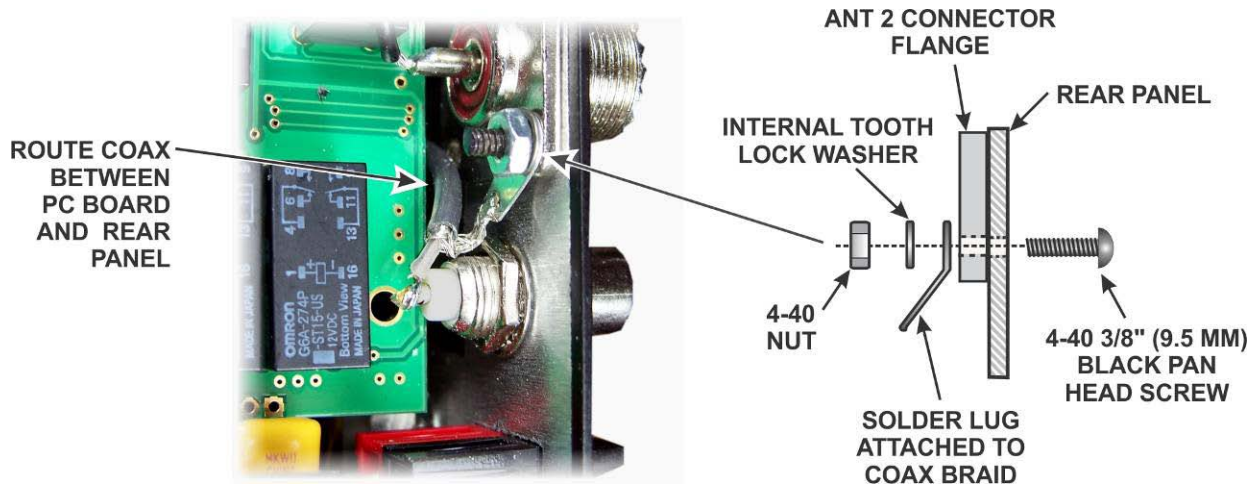

Figure 9. Installing AUX RF Ground Lug.
- Install the SO239 coaxial connector in the ANT 2 space using the hardware shown in Figure 8. If the optional sub receiver AUX RF connector is installed, remove the 3/8" (9.5 mm) black pan head screw and associated hardware from the lower hole, then use the same screw to replace the AUX RF ground lug as shown in Figure 9
- Plug the KAT3A board into P70 on the RF board. **Wear a wrist strap or touch an unpainted metal ground before handling the boards.** Flex the back panel slightly as needed for the board to clear the lip at the top, just as you did when removing the KANT3 board. If the AUX RF connector is installed, route the coaxial cable between the KAT3 board and rear panel as shown in Figure 9.